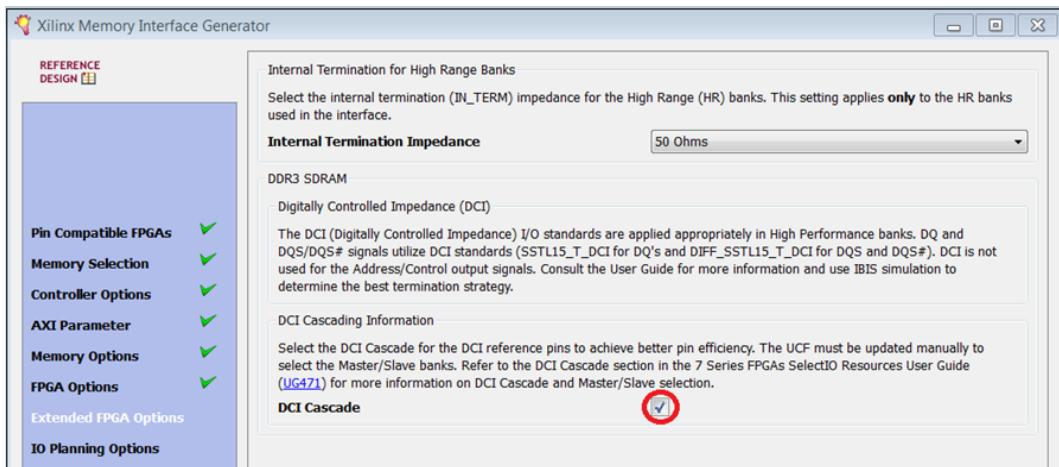

Figure 96: MIG Page: DCI Cascade
- I. In the MIG Internal Termination for High Range Banks page, select the **DCI Cascade** check box. Click **Next** (Figure 96).